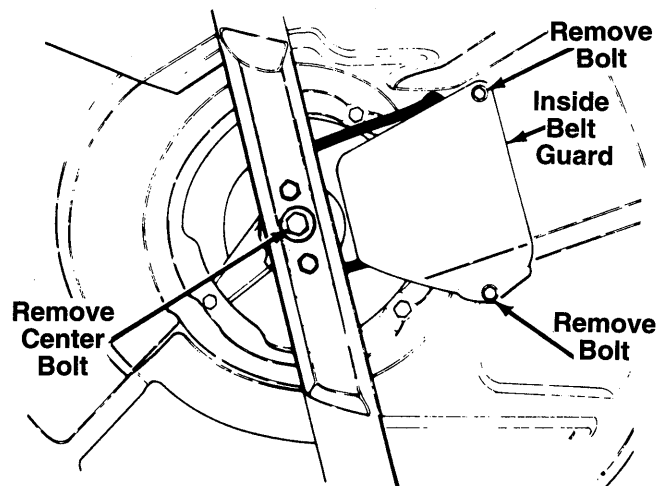

FIGURE 20.
5. Remove the center bolt which secures the blade to the crankshaft. See figure 20. Remove the blade, blade adapter and pulley half. Remove the belt.
6. Remove the inside belt guard by removing two self-tapping screws. A 3/8" wrench is required. See figure 20.
7. Remove the belt from between the idler pulley and the belt guard on the idler pulley bracket. Refer to figure 20.